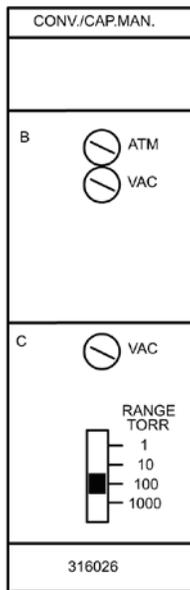

Figure 4-2 Capacitance Manometer Module, Front Panel
3. Adjust the vacuum potentiometer (Figure 4-2) until the third display line shows a single "0". If the adjustment is turned too far, a minus sign will appear in the display. Proper calibration is achieved only when the "0" appears.
This potentiometer is used to set analog output 2 at zero pressure. This value is also affected by the Vacuum Adjust potentiometer (Figure 4-2). The output can be adjusted to values between -0.2 and +0.2 volts at zero pressure.